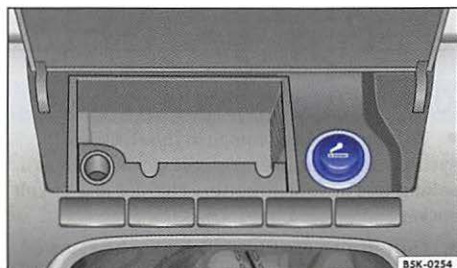

Fig. 115 In the front center console: Cigarette lighter in ashtray.
- With the ignition switched on, push in the knob of the cigarette lighter ⇒ fig. 115.